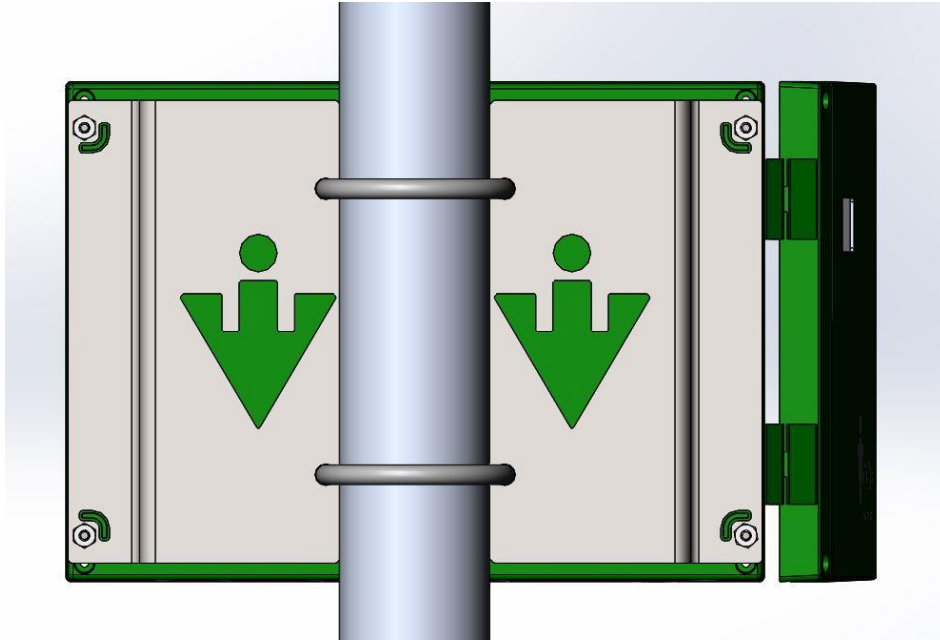

Figure 2-22. Mounting Bracket with All Screws Attached
12. Repeat Steps 10-11 for installing the three remaining screws. The assembly should resemble that of Figure 2-22.